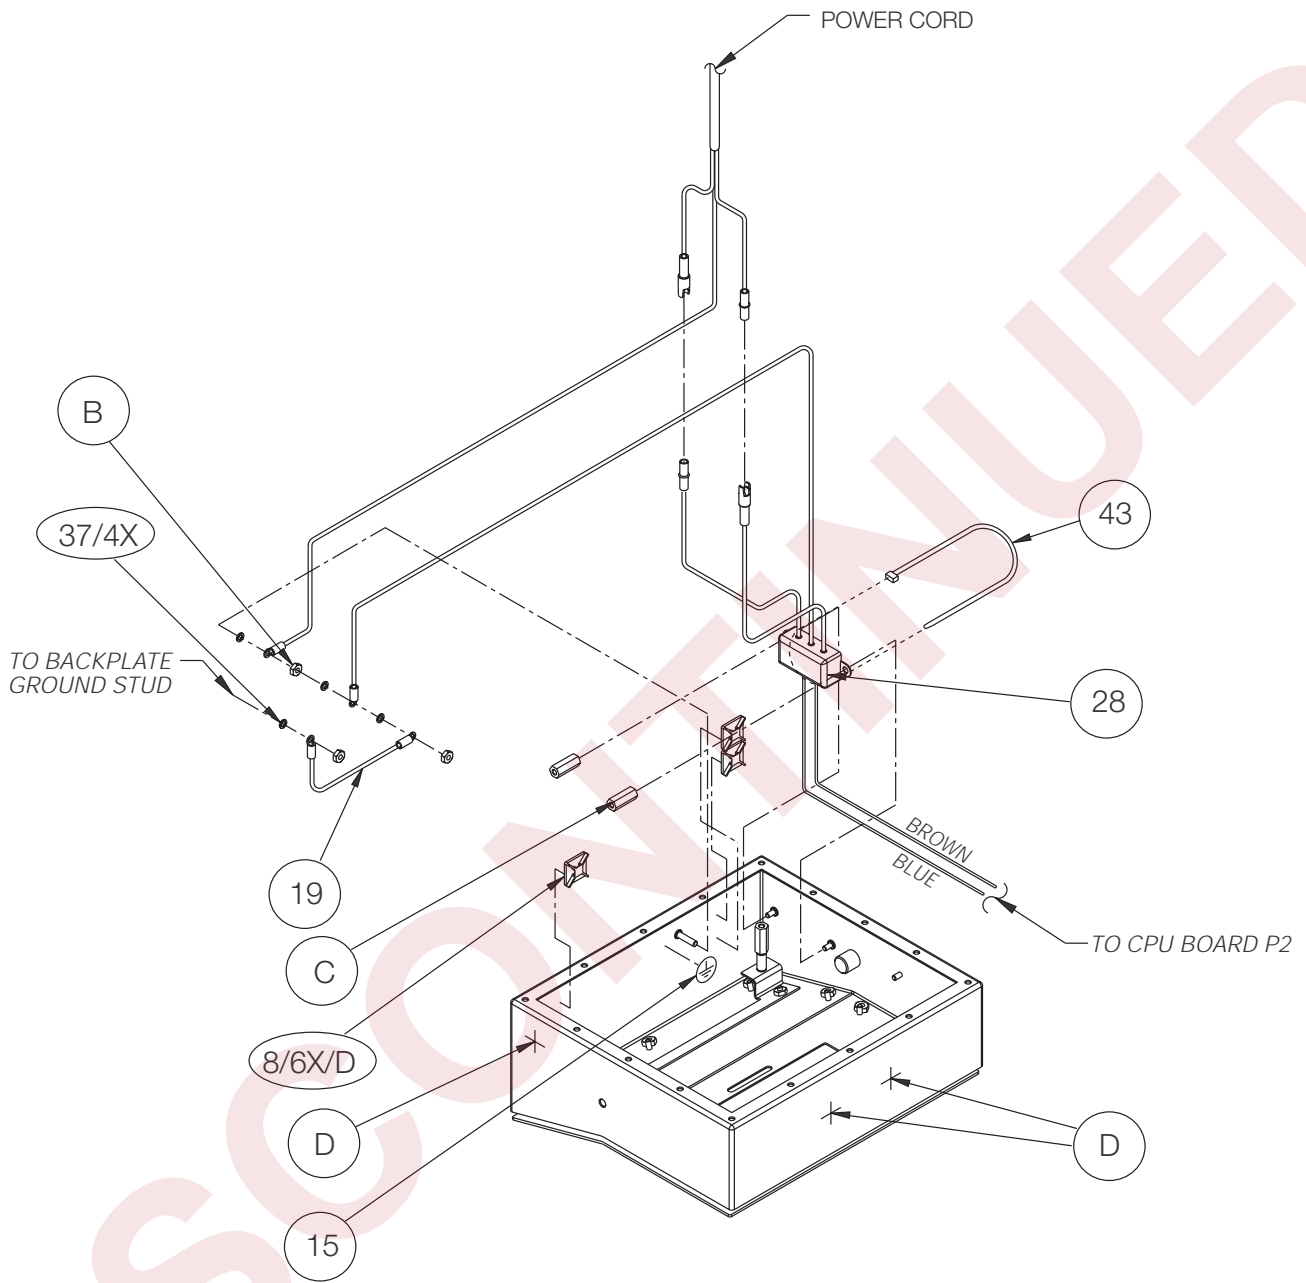

Figure 2-7. Enclosure and Line Filter Assembly
| 8          | 15650* | Cable tie mounts (8)                              | Figure 2-7 on page 10  |
| 15         | 16892  | Ground/Earth Label (1)                            | Figure 2-7 on page 10  |
| 19         | 45043  | Ground wire, 4 in w/ No. 8 eye connector (1)      | Figure 2-7 on page 10  |
| 28         | 45891  | Line filter assembly (1)                          | Figure 2-7 on page 10  |
| 37         | 15134  | Lock washers, No. 8 (4)                           | Figure 2-7 on page 10  |
| 40         | 15369  | Standoffs, fem 6-32NC x 3/4 (3)                   | Figure 2-7 on page 10  |